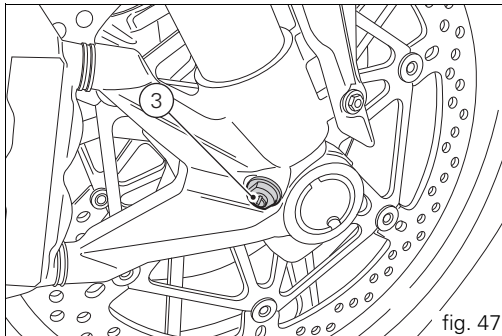

fig. 47
- 3) for compression adjustment (fig. 47).